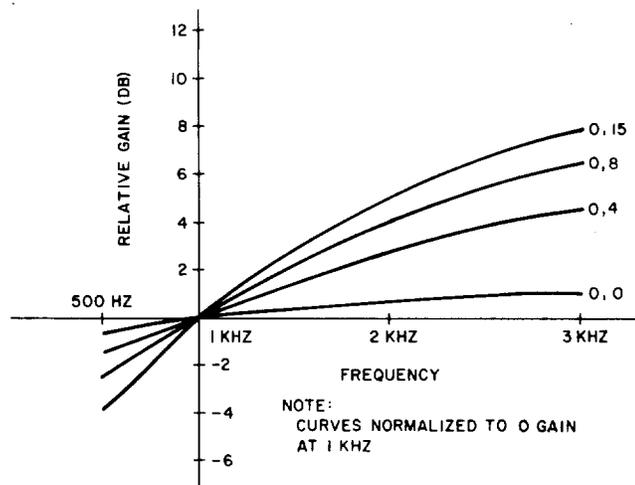

Fig. 8—Amplifier/Equalizer Response C=0
**4.02** Figures 8 and 9 give the frequency response of the gain and equalizer unit for the J99343PB, L1 and L2. Figure 8 gives the response curves for various equalizer settings with the C switch set to 0. Fig-